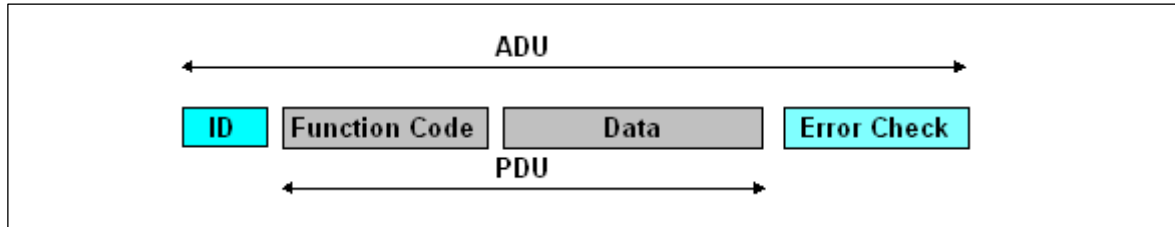

Figure 2: Protocol frame
As additional information, the Application Data Unit (ADU) includes the participant address (ID) allowing master and multi-slave operation, and a so-called error check defined as the checksum over the characters to be transmitted. The address and the error check are added before and behind the character string as shown in Figure 2 and are transmitted together with it.